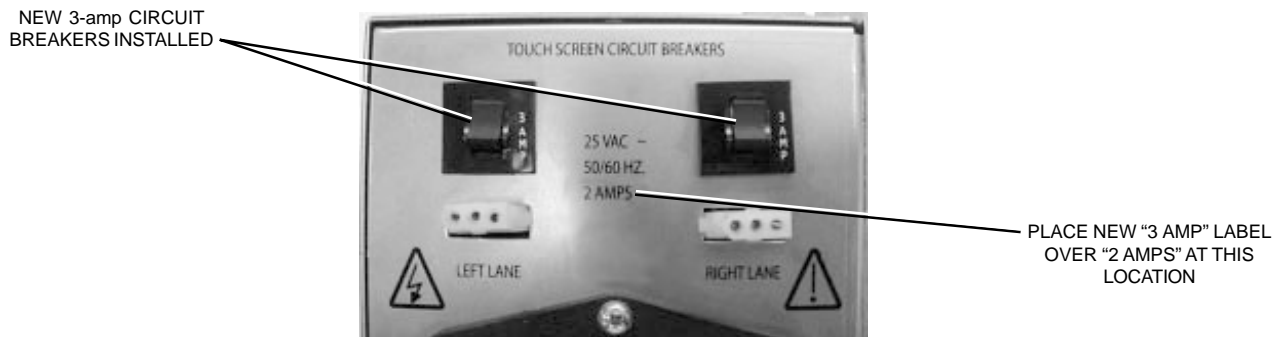

Figure 3
4. Install the new 3-amp circuit breaker and reconnect the Fast-On connectors. Keep the rotation of the circuit breaker correct. Refer to Figure 3.
7. Place the new “3 AMPS” label over the existing “2 AMPS” silk screened on the enclosure. Refer to Figure 3.